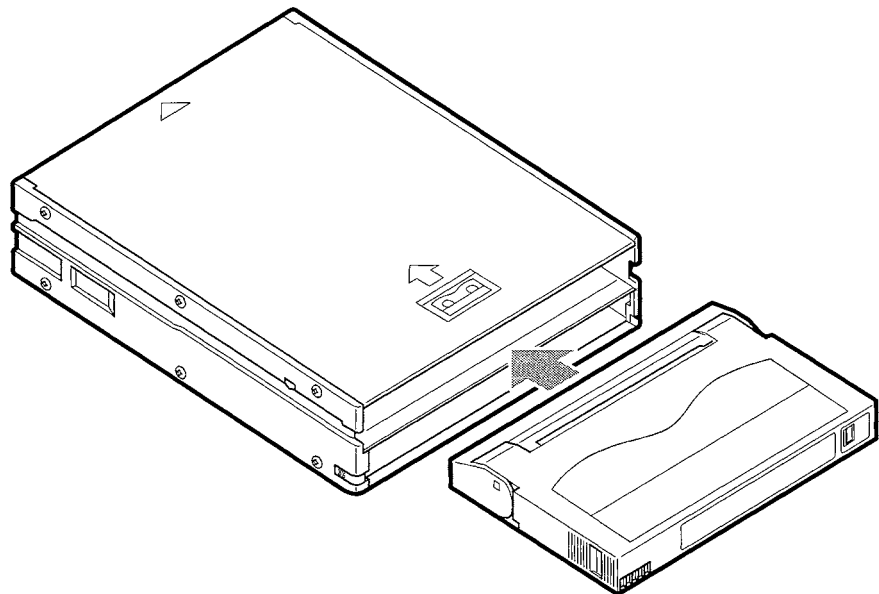

Figure 4-8. Insert two tapes into the top slot
2. Insert two tapes into the top slot. See Figure 4-8.